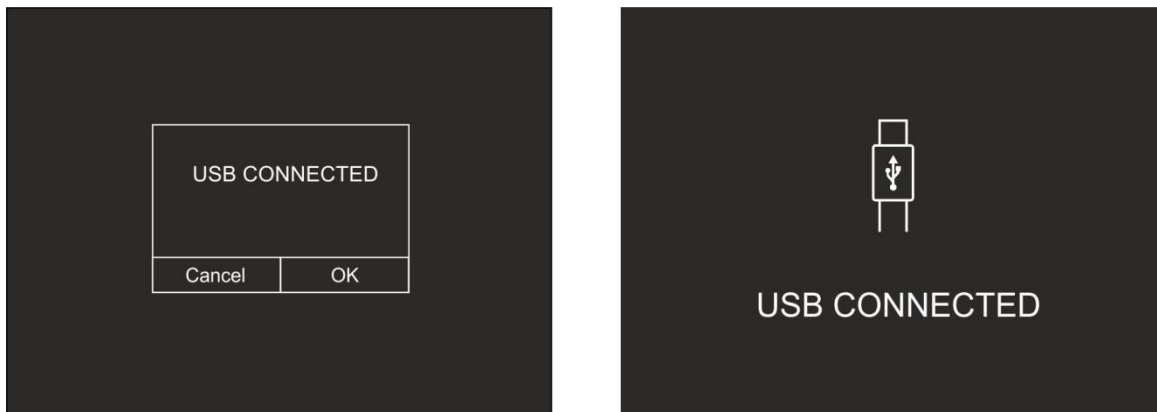

Fig. 13: Connecting the instrument to the PC
3. Connect the instrument to the PC via the provided USB cable. The screen in Fig. 13 – left side appears on the display:
4. Confirm with “OK” to activate the connection, or touch “Cancel” to go back to the main menu. The screen in Fig. 13 – right side appears on the display, and the instrument does not accept any command.